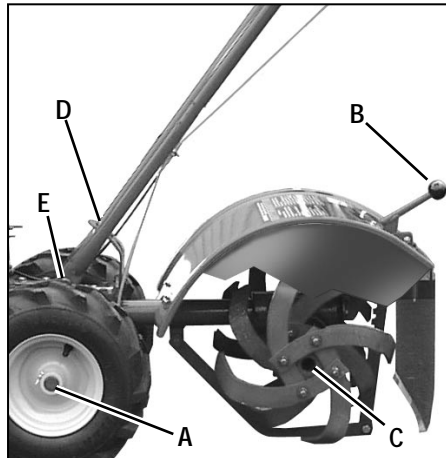

Figure 5-1: Tine shield cut away for clarity.
Proper lubrication of the tiller is an essential part of your maintenance program. After every 10 operating hours, oil or grease the lubrication points shown in Figure 5-1, as described below.
- Remove wheels and clean wheel shaft (A, Figure 5-1). Apply a thin coating of grease to shaft before reinstalling wheels.
- Grease back, front and sides of Depth Regulator Lever (B, Figure 5-1).
- Remove tines and clean tine shafts (C, Figure 5-1). Inspect tines for rust, rough spots or burrs (especially around holes). File or sand smooth and coat ends of shaft with grease.
- Oil threads on handlebar height adjustment flange screw (D, Figure 5-1).
- Oil threads on handlebar attaching screws (E, Figure 5-1).